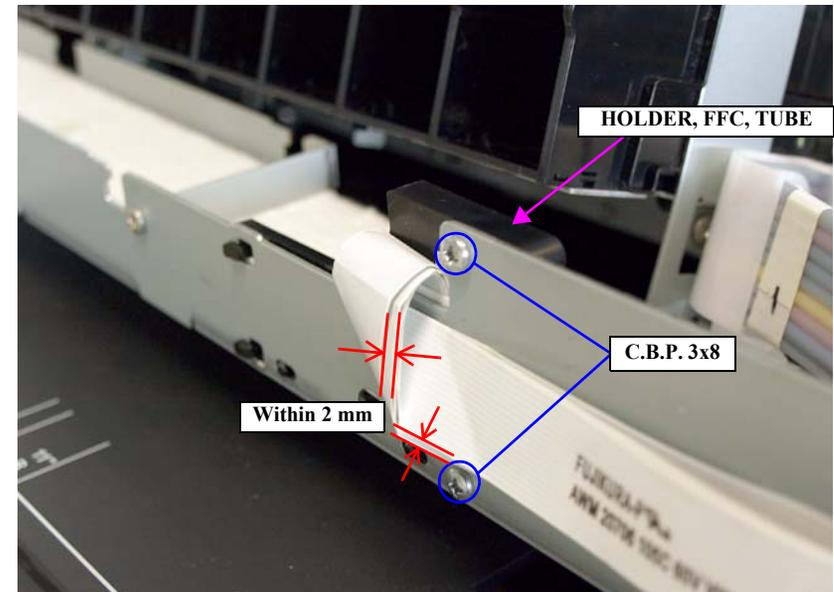

Figure 4-118. Installing the HOLDER, FFC, TUBE
- Keep the gap between the FFCs within 2 mm. *See Figure 4-118.*
18. Fold the FFCs as shown in *Figure 4-118* carefully taking up the slack.